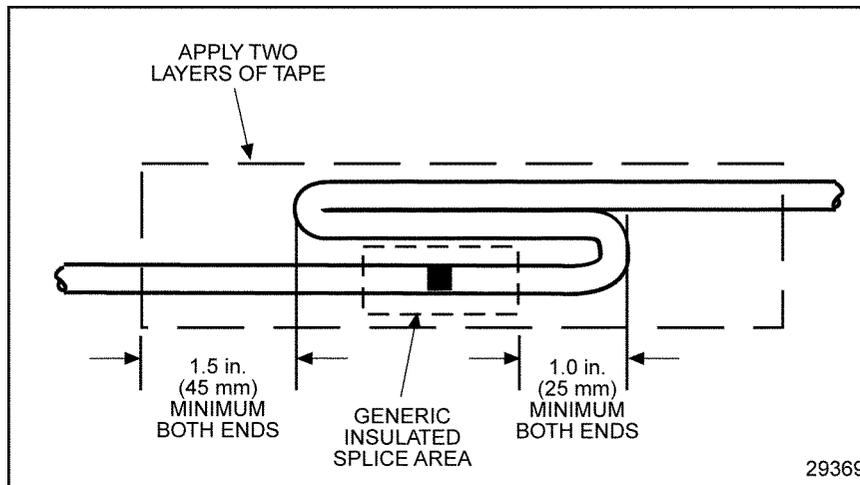

Figure 3-21 Recommended Strain Relief of Spliced Joint
- Loop the lead back over the spliced joint and tape. See Figure 3-21.
8. Loop the lead back over the spliced joint and tape. See Figure 3-21.
9. Loop the lead back over the spliced joint and tape. See Figure 3-21.